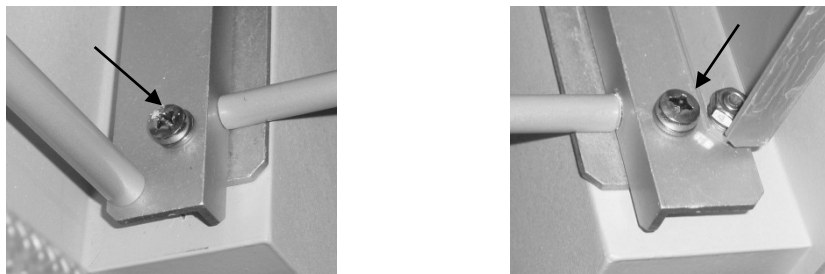

Figure 16 - Left and Right Hydraulics Rail Screw Locations
55. Using Figure 16 locate and remove the two (2) bolts holding the hydraulics into the cabinet.